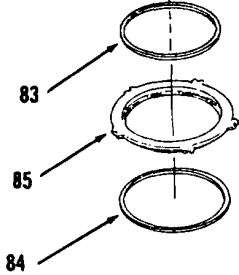

Figure 14-61.
- 17. Install rings (84 and 83) on piston (85, Figure 14-61).